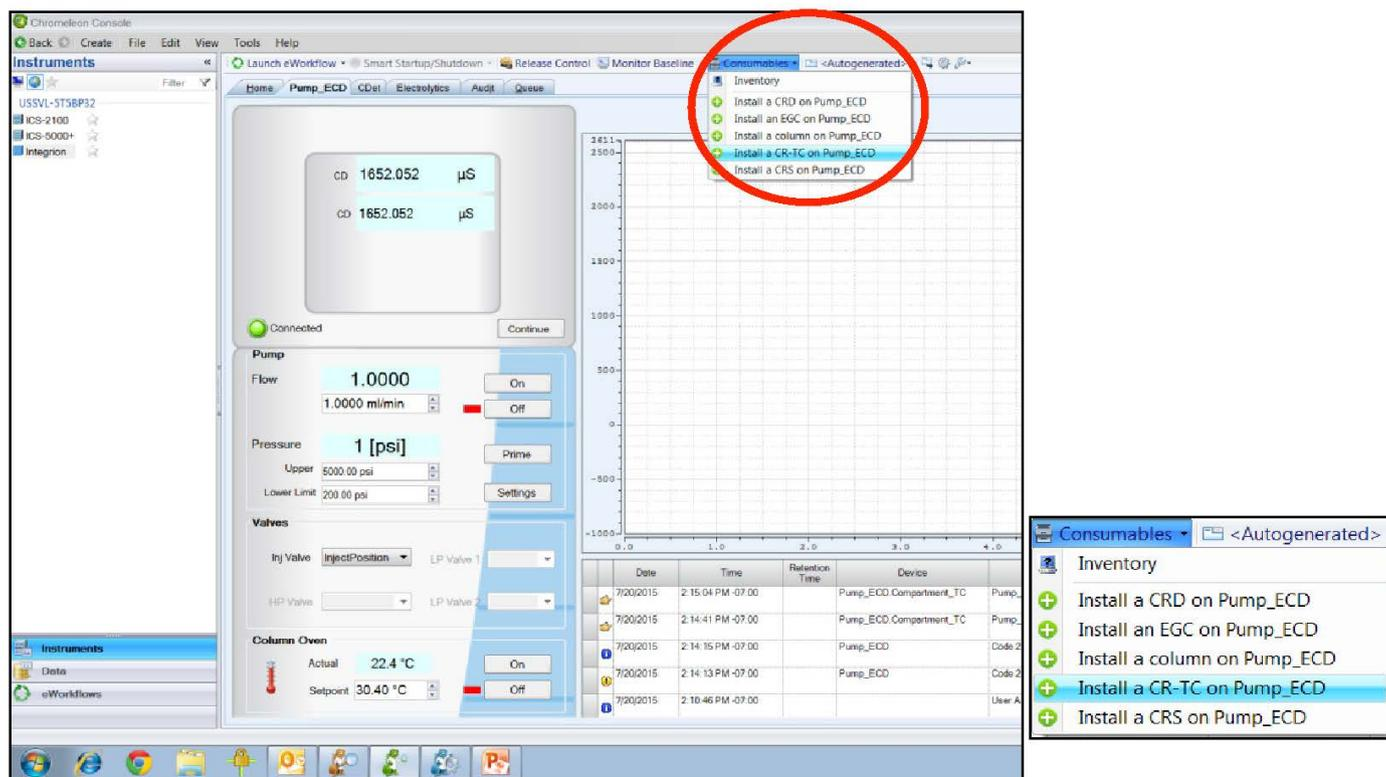

Figure 9. Consumables online installation instructions.
Install the Dionex EGC 500 KOH cartridge and Dionex CR-ATC 600 Continuously Regenerating Anion Trap Column in the reservoir tray compartment. Condition the devices according to instructions in the drop-down menu under Consumables, Install (Figure 9). (This information is also available in the product manuals and the system installation manual.2-4) Install the black PEEK (0.010 in i.d. tubing) backpressure loop (exerting an additional ~40 psi) from the slotted compartment next to the CD Conductivity Detector to the suppressor Regen In port.
4. Condition the columns for 30 min according to the instructions from the *Consumables, Install Column section* (Figure 9).